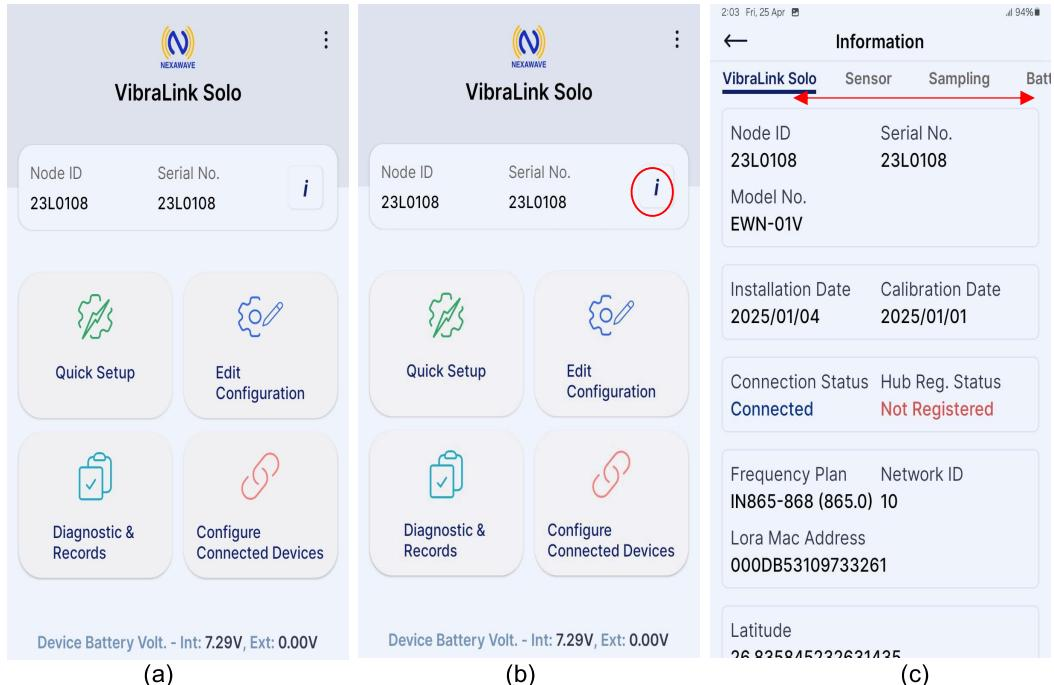

Figure 5-13.1
- It will take you to the home screen of the VibraLink, as shown in Figure 5-13.1(a). Clicking on the 'i' button (Figure 5-13.1(b)) will open the information window. Within this window, you can scroll to view information about the VibraLink, sensor, sampling, and battery and the phone (Figure 5-13.1(c)).